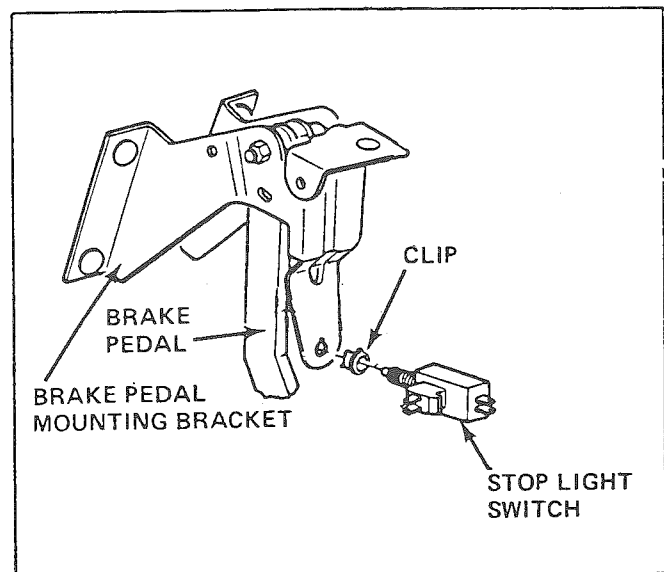

Figure 149 -- Stoplight Switch on Brake Pedal
**STOPLIGHT SWITCH ADJUSTMENT** -- The design of the stoplight switch and valve mounting (see figure 149) provides for automatic adjustment when the brake pedal is manually returned to its mechanical stop, as follows: